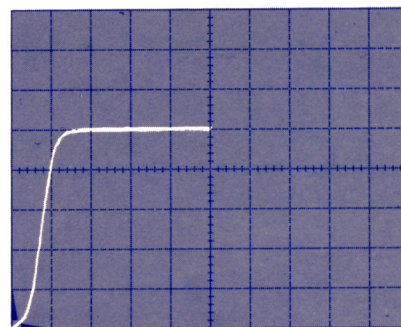
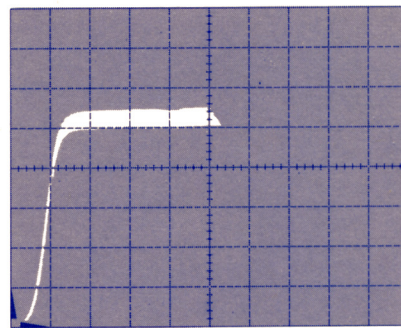

Figure 5-2. Typical display of dc forward current-gain (dc beta or h_{FE}) test.
Figure 5-3. Typical display of dc forward current-gain showing thermal effects.
- 3) Adjust to parameters – If operating point is given in terms of collector current, advance OFFSET MULT (cw) until curve crosses the the horizontal line corresponding to the specified collector current [5 divs vertical, or 0.1 mA], then adjust VARIABLE COLLECTOR % supply until the curve crosses the vertical line corresponding to the specified voltage [5 divs horizontal, or 1.0 V]. See figure 5-2. 24 8
Note on Temperature Effects: If the displayed curve (Figure 5-2) appears to drift up or down the graticule, thermal effects may be altering device operation. On D1 (storage models), to see how serious this drift may be, store the curve by pressing UPPER and LOWER STORE buttons in (store), then press ERASE, and now observe the stored drift. See Figure 5-3. If this problem is serious enough, it is impossible to obtain an accurate measurement. It is possible, however, to minimize these thermal effects by using the pulsed, 300 μ s, 2% duty cycle of the step generator instead of the offset multiplier. In this “pulsed mode” method, it is not always possible to match the exact specified value of collector and base current. 3 2 12